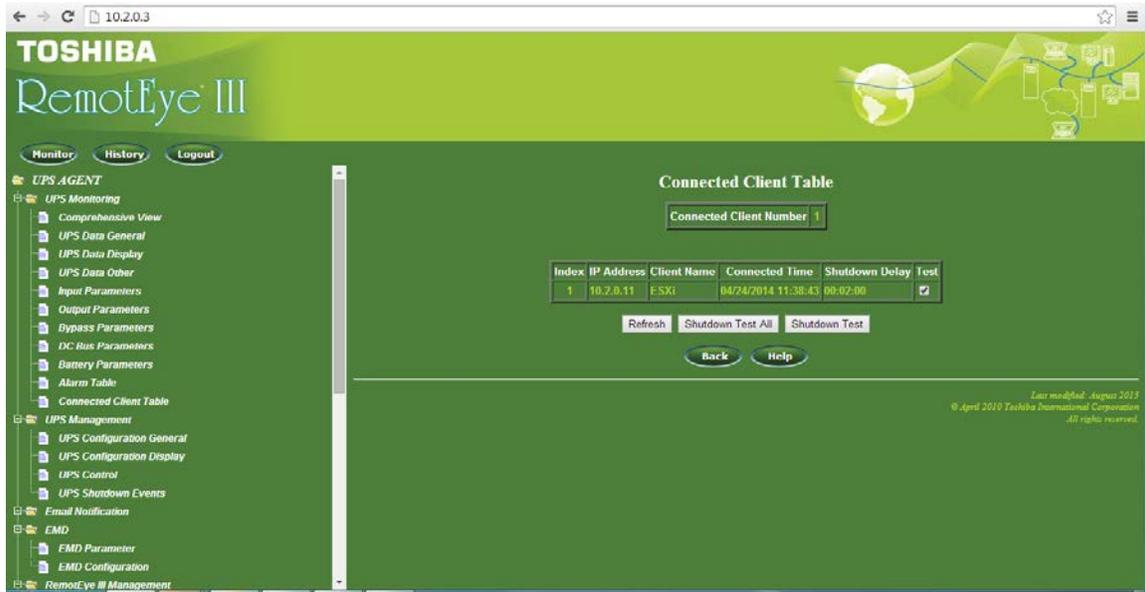

Figure 0-12 RemotEye III Main Display with Shutdown Test Buttons
20. Test it. (See Figure 0-12)